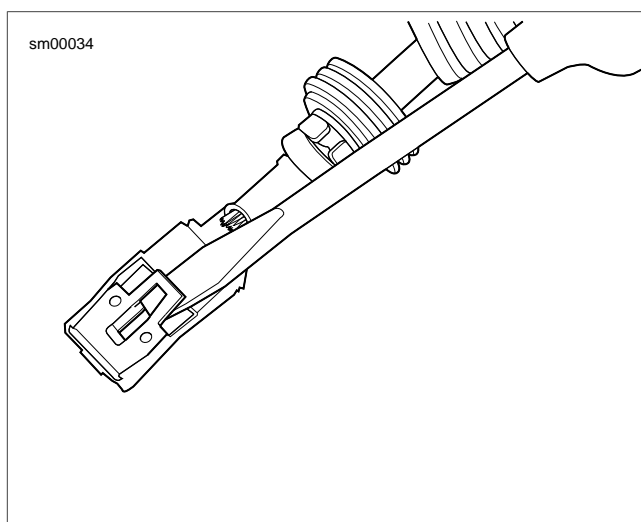

Figure A-15. Delphi 800 Metri-Pack Sealed Main Fuse Housing: Bend Tang
1. See Figure A-15. Carefully bend tang outward away from the terminal body.